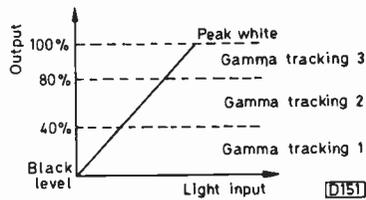

Fig. 8 (right): Triple-level tracking correction.
At mid-range light levels the sensitivity differences remain constant and can be equalised by gain adjustment so that the signals track together. At the extremes of low and high light however the red and blue signal levels fall off first. To prevent different tints at different light levels a triple-level tracking correction system is used. Fig. 8 shows the effect of this. Tracking (1) works at output levels up to 40 per cent, tracking (2) at between 40 and 80 per cent and tracking (3) at above 80 per cent. Tracking is